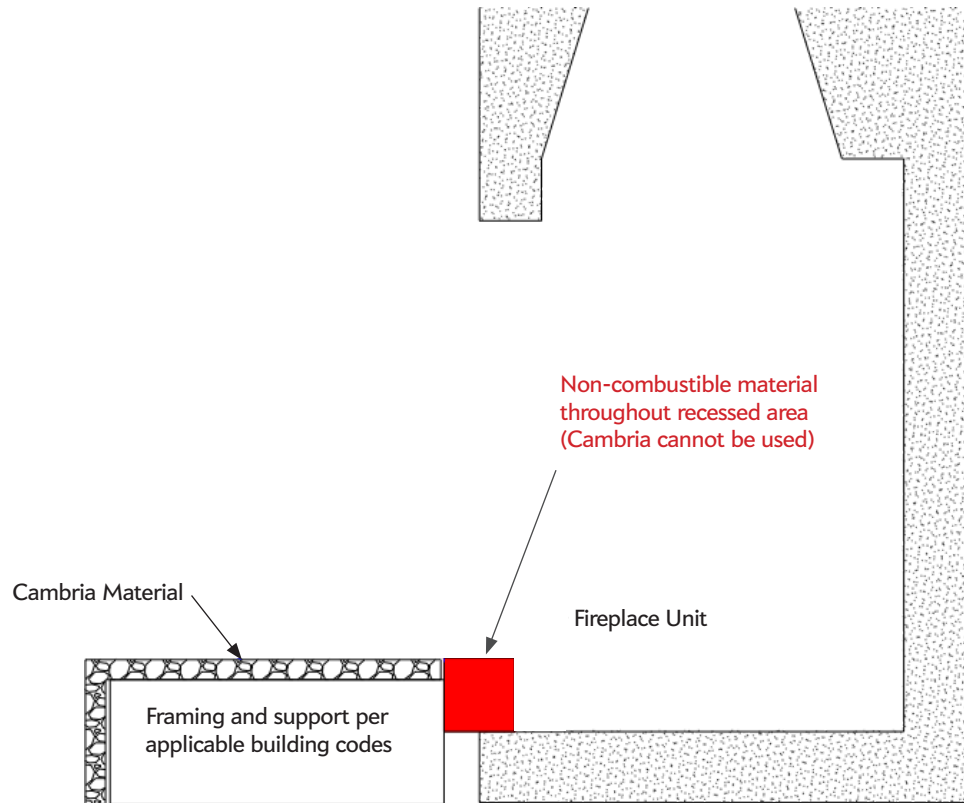

Figure 2
- If the fireplace is installed below the plane of the Cambria hearth a different material must be used to ensure there is no direct or indirect heat transfer. The fireplace must be designed so that the polished face of the Cambria is recessed 1/8". See **Figure 2**.